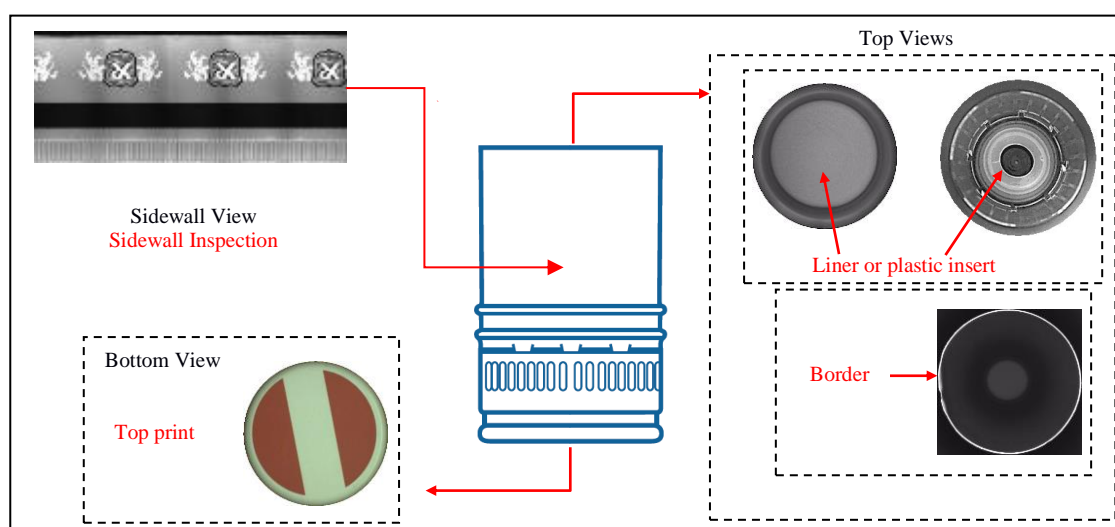

Fig. 1
**MULTICAP** is an Artificial Vision System for the inspection of aluminum and plastic closures to detect the typical defects of this kind of production. The complete configuration includes the use of 9 acquisition units: 1 for the inspection of the border, 1 for the inspection of the liner, 1 for the inspection of the top print and a special unit with 6 cameras for the inspection of the external sidewall (fig. 1).